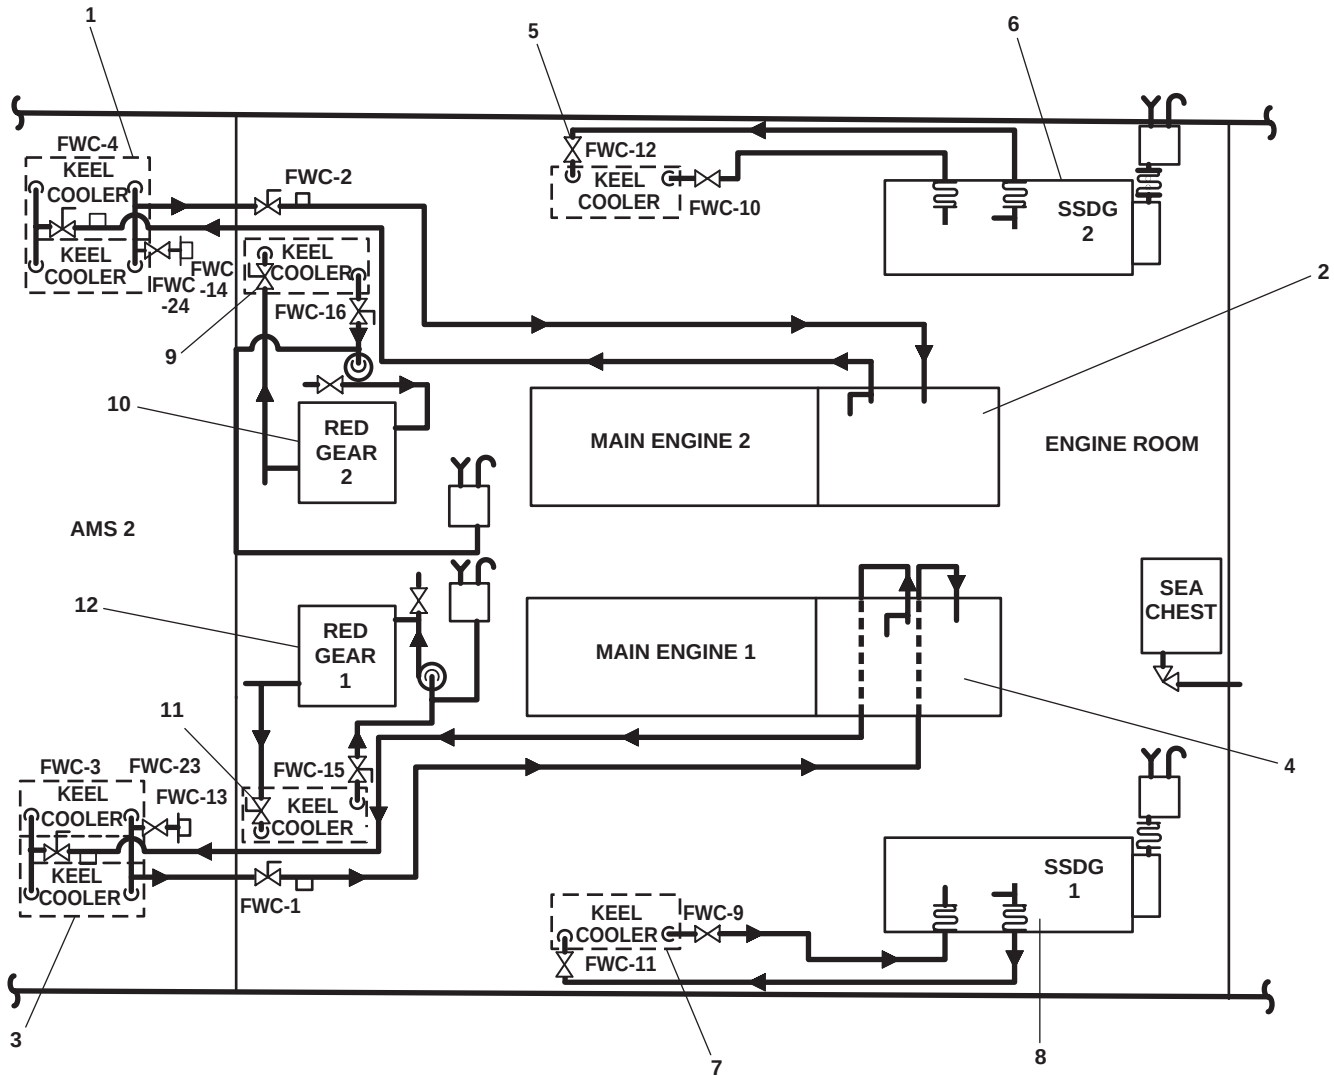

Figure 1. Keel Cooler Piping
1. Enter into the port shaft alley and, using a flashlight, visually inspect around the PORT side main engine keel cooler piping (figure 1, item 1) and valves, checking for obvious wear, rust, or coolant leakage.
2. Inspect the coolant piping extending between the PORT side keel cooler piping (figure 1, item 1) and the main engine 2 (figure 1, item 2) for obvious wear, rust, or coolant leakage.
3. Repeat steps 1 and 2 for the STARBOARD keel cooler piping (figure 1, item 3) inspection, entering the starboard shaft alley and inspect from the STARBOARD keel cooler piping to the main engine 1 (figure 1, item 4).
1. Enter into the bilge and, using a flashlight, visually inspect around the PORT side SSDG keel cooler piping (figure 1, item 5) and valves checking for obvious wear, rust, or coolant leakage.
2. Inspect the coolant piping extending between the PORT side keel cooler (figure 1, item 5) and SSDG 2 (figure 1, item 6).
3. Enter into the bilge and, using a flashlight, visually inspect around the STARBOARD side SSDG keel cooler piping (figure 1, item 7) and valves checking for obvious wear, rust, or coolant leakage.
4. Inspect the coolant piping extending between the PORT side keel cooler (figure 1, item 7) to SSDG 1 (figure 1, item 8).
1. Enter into the bilge and, using a flashlight, visually inspect around the PORT side reduction gear keel cooler piping (figure 1, item 9) and valves, checking for obvious wear, rust, or coolant leakage.
2. Inspect the coolant piping extending between the PORT side keel cooler (figure 1, item 9) and reduction gear 2 (figure 1, item 10).
3. Enter into the bilge and, using a flashlight, visually inspect around the STARBOARD side reduction gear keel cooler piping (figure 1, item 11) and valves, checking for obvious wear, rust, or coolant leakage.
4. Inspect the coolant piping extending between the STARBOARD side keel cooler (figure 1, item 11) and the reduction gear 1 (figure 1, item 12).